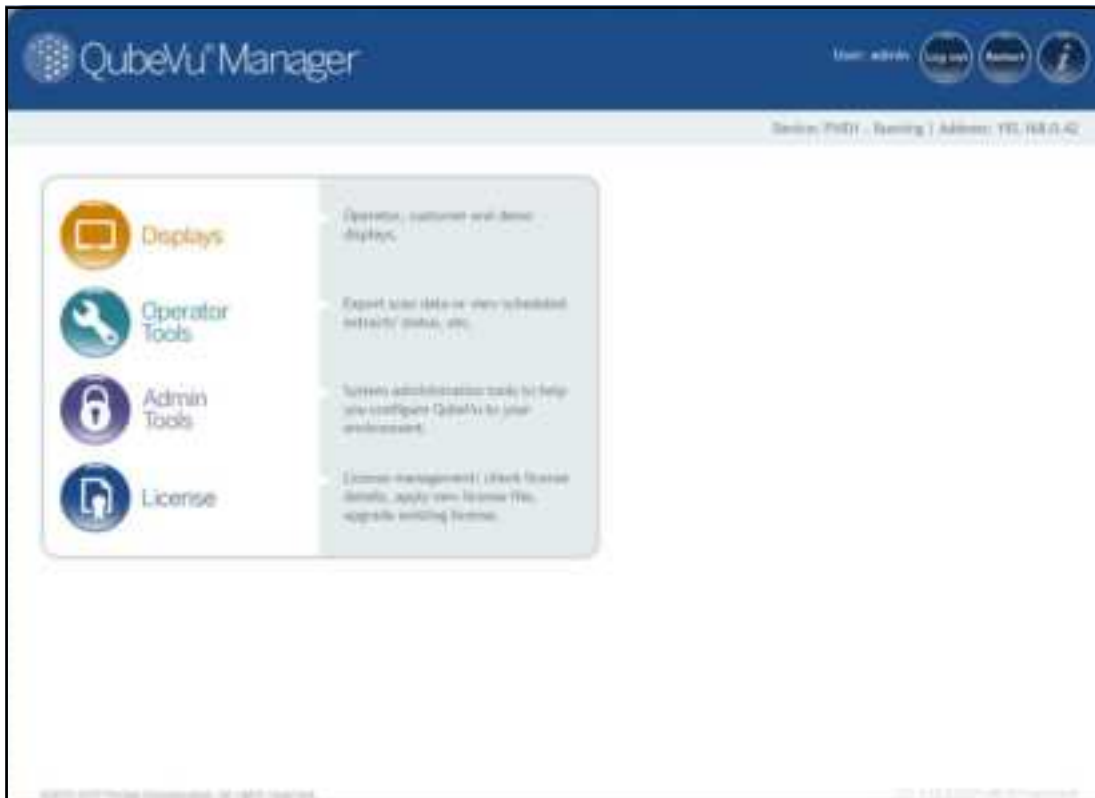

Figure 2-1. QubeVu Manager Home Page
1. Press  from the **QubeVu Manager** menu (Figure 2-1 on page 8) to enter the **Admin Tools** menu.
1. Press  **Admin Tools** from the **QubeVu Manager** menu (Figure 2-1 on page 8) to enter the **Admin Tools** menu.